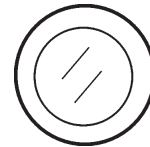

Figure 42. Pre-Heat Button
6. Press and hold the **pre-heat button** (Figure 42) for at least 5 seconds to warm the engine glow plugs.